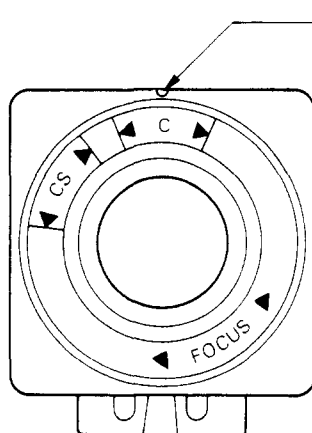

Figure 3
- a. C-mount lens as shown in Figure 3
3. Check the lens mount settings (Figure 3 or 4). Make sure it is at the correct position (C or CS). If necessary, change the mount setting. Refer to "Lens Mount Type" (page 5).